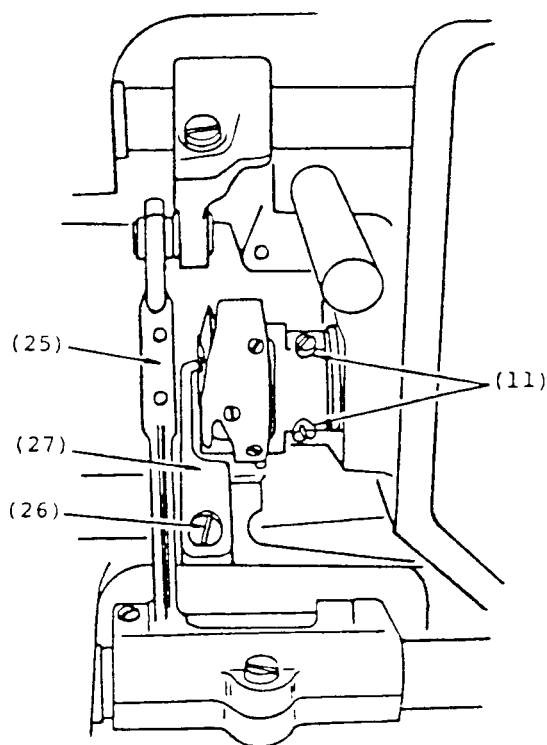

Fig. 16
Remove the needle, slide plate, throat plate and bobbin case. Remove the screw (26), Fig. 16 and the bobbin case holder position bracket (27), Fig. 16. Loosen the two set screws (11), Fig. 16 in the hub of the hook and turn the machine pulley over toward the operator until the feed bar (25) is raised to its highest point.